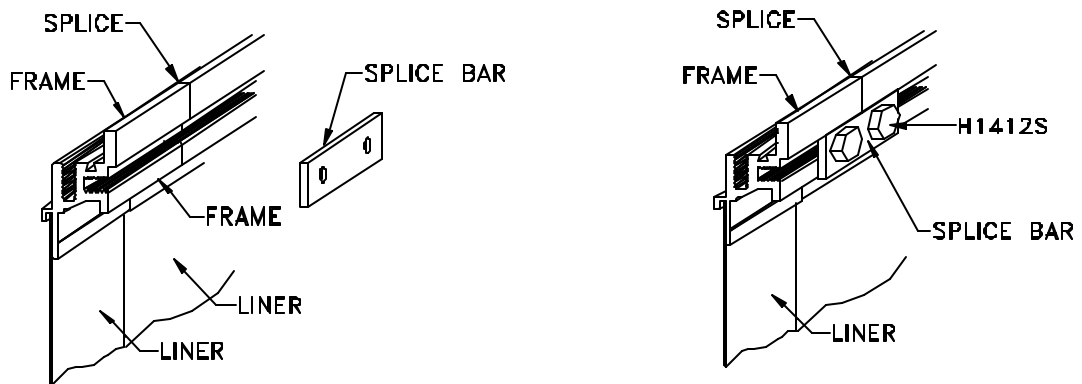

Figure 21
- STEP 4.** Select a splice bar and place it into position on the frame so that the splice bar traverses the splice and so that the splice is centered behind the splice bar (see Figure 21).
- STEP 5.** Attach the splice bar to the to the frame sections using the fasteners (part no. H1412S) provided by the factory (see Figure 21).